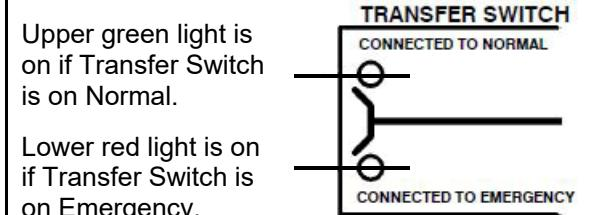

Figure 8. Status lights for Transfer Switch main contact position.
1. Observe which *Transfer Switch Connected To* light is on (*Normal* or *Emergency*) on the door. This is the position of the transfer switch (see Figure 8).